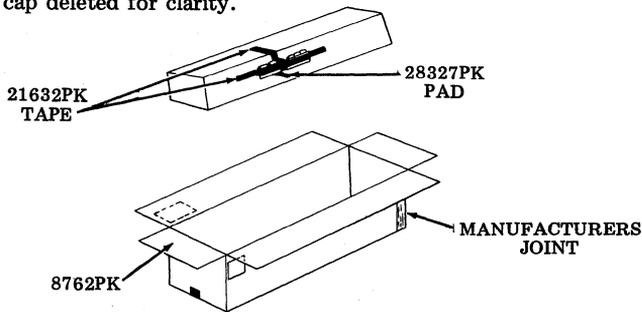

Fig. 49
- Step 6. With manufacturers joint on the carton to the right side, place the unit into the carton with the keytops to the side of the carton. (See Fig. 49).